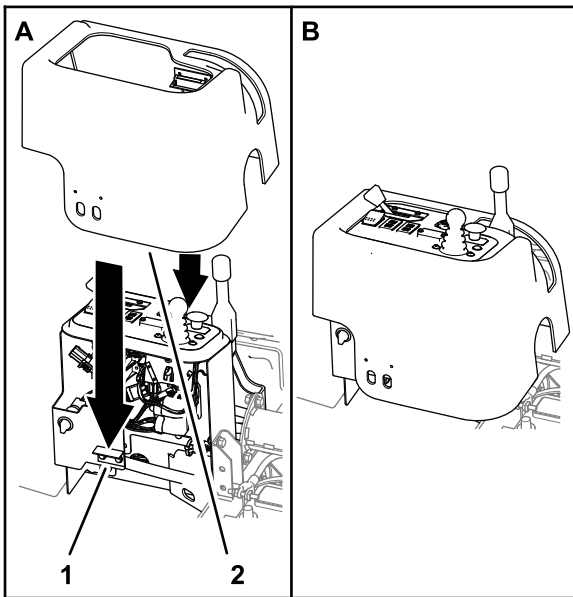

Figure 24
1. Align the console cover over the console (Figure 24).
2. Align the slot in the cover with the parking brake handle (Figure 24).
3. Lower the cover onto the console until the magnetic catch of the cover aligns with the strike bracket on the console support (Figure 24).